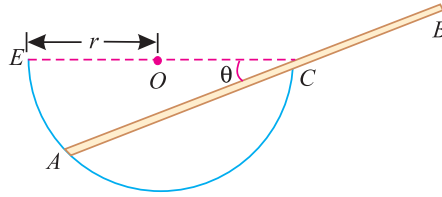

Fig. 5.21.
**Example 5.9.** A uniform rod  $AB$  of length  $3r$  remains in equilibrium on a hemispherical bowl of radius  $r$  as shown in Fig. 5.21.